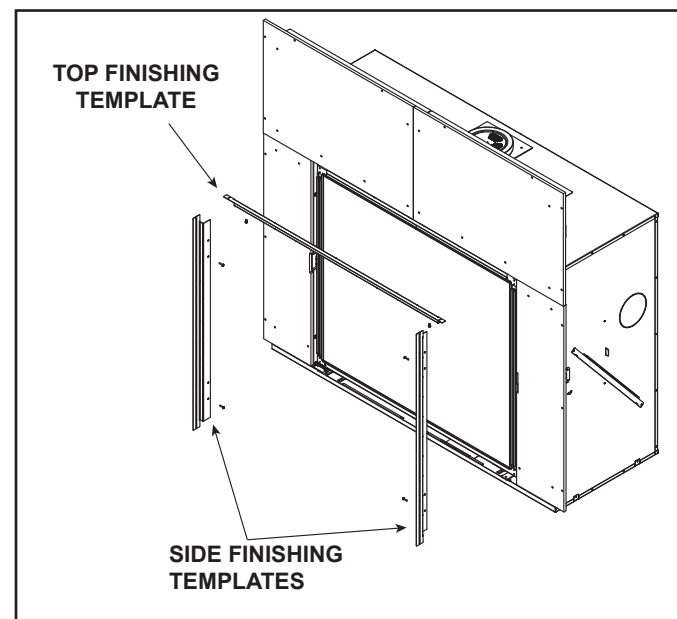

Figure 13.3 Top and Side Finishing Template Locations
2. Locate the four threaded inserts on the inside edge of the fireplace and secure the side templates with the Phillips screws provided. See Figure 13.3.